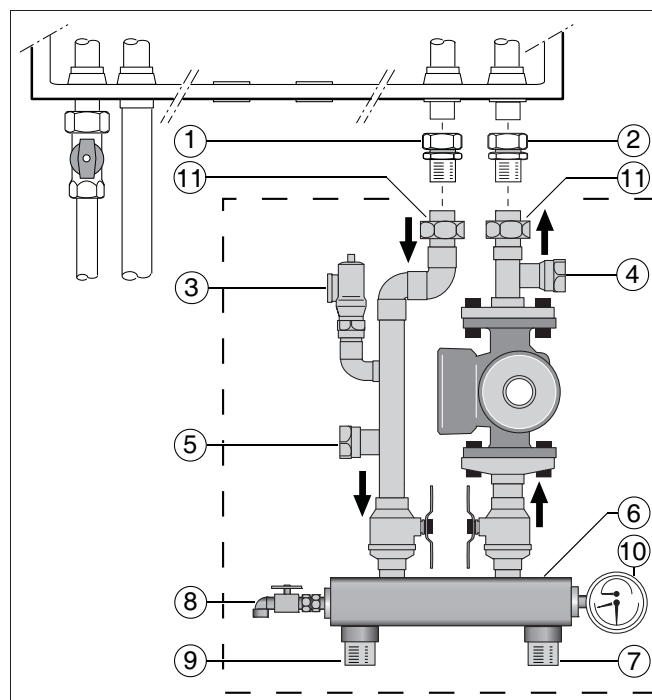
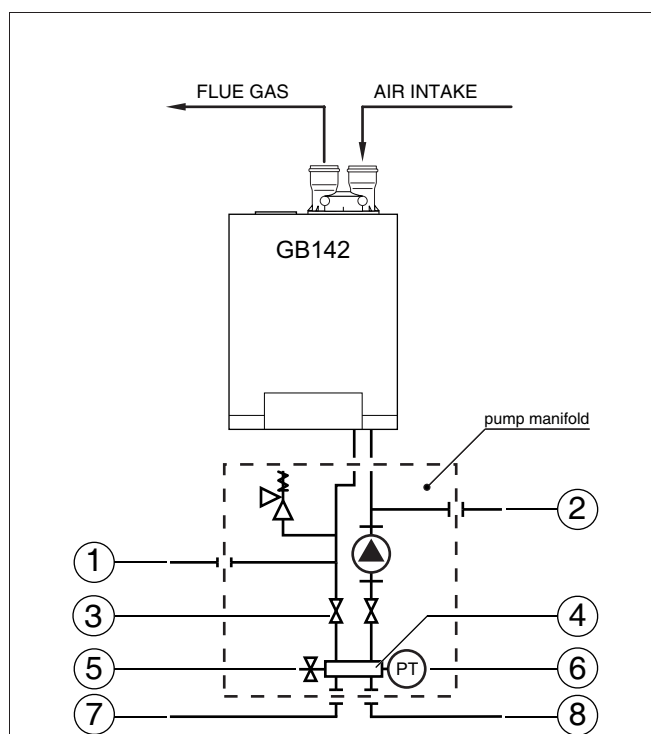

Fig. 9 Pump manifold installation
Fig. 10 Schematic representation of the boiler with the hydronic set
- Fit the compression fittings (see fig. 9, pos. 1 and 2) first to the Hydronic set (see fig. 10, 11 and 12) and then to the boiler.
Fig. 10 is a schematic representation of fig. 9.
- Install the relief valve according fig. 10.